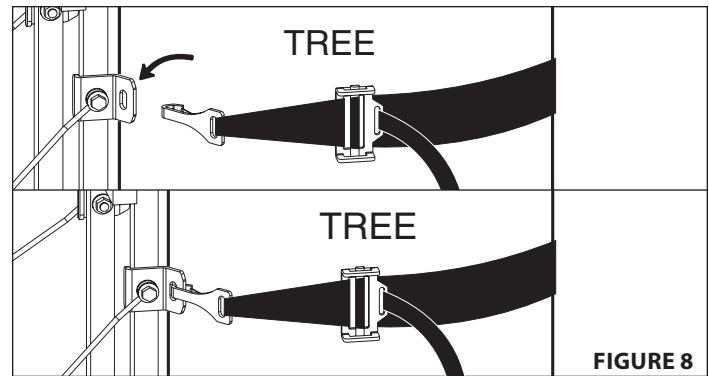

FIGURE 8
b. Take snap hook/buckle end and wrap around tree. Be sure the strap is even and at the same level all the way around the tree. Also, be sure there are no twists in the strap. Connect hook to opposite side of stand by inserting through slot provided. Be absolutely sure snap hook engages through slot of bracket and can not come off. **SEE FIGURE 8**